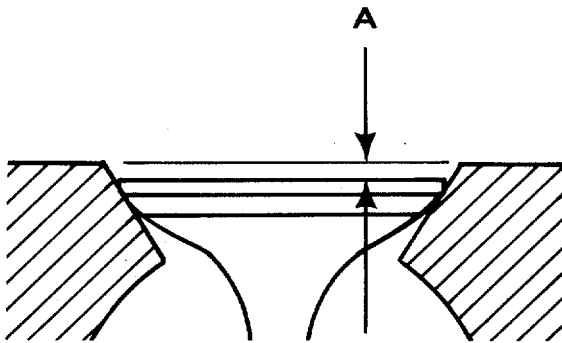

FIGURE 4-16. Checking Valve Depth (A).
- (1) Install the valves in their designated location and measure valve depth. The depth is the distance from the valve face to the head deck as shown in FIGURE 4-16.
- (2) Record the depth of each valve as (A). Table 4-3 gives minimum (MIN) and maximum (MAX) depth.